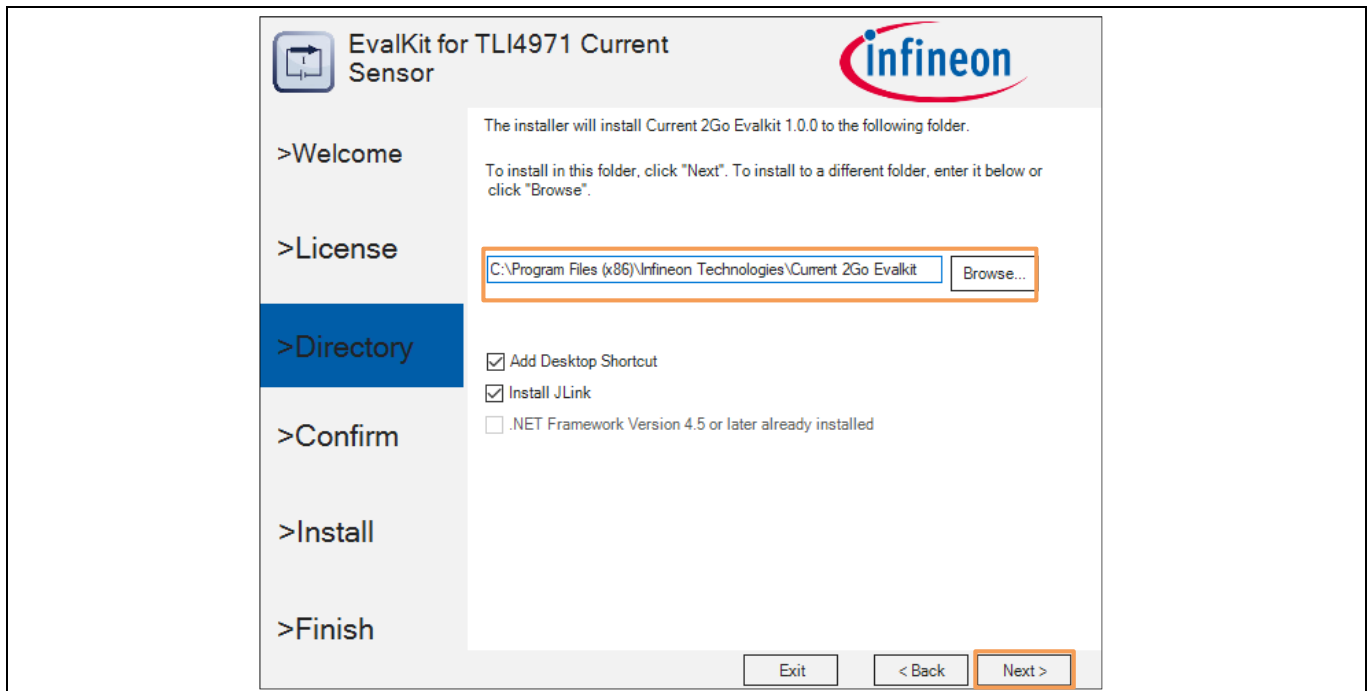

Figure 21 EvalKit Installer 1.0.2 – Select the installation folder
- Then the installer will prompt for the installation folder. Accept the default one or use another directory by selecting the “**Browse**” button as shown in orange color box of Figure 21. Also, select the check boxes of “Add Desktop Shortcut” and “Install JLink”. Click “**Next**” button to continue with the installation